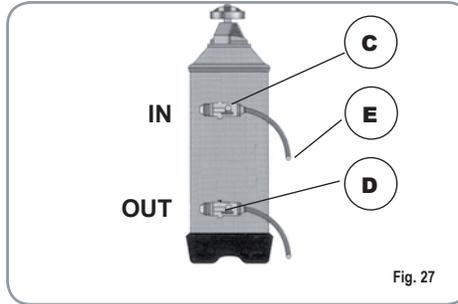
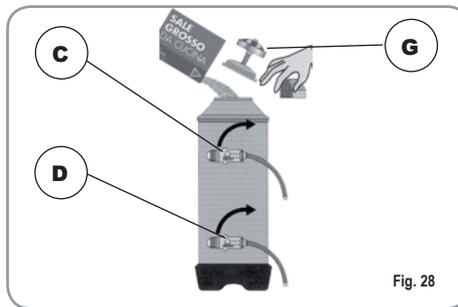

Fig. 27
Fig. 28
- 1) Turn the machine off and place a container large enough to contain at least 5 litres under tube E (Fig. 27). Turn levers C and D from left to right; take the cap off by unscrewing knob and fill with 1 Kg normal kitchen salt (Fig. 28).